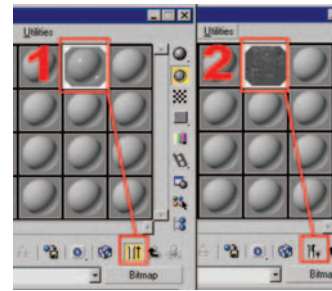

Figure 11.56 Show End Result button before and after clicking. The result on the right (2) is what you want to see.
20. Go up to the Show End Result button just below the material slots in the Material Editor. It should be yellow; click on it, and it will turn gray. The material slot will change from the sphere preview to a square image to display only this level of the material definition. Figure 11.56 shows the Show End Result button and the material slot before and after clicking.